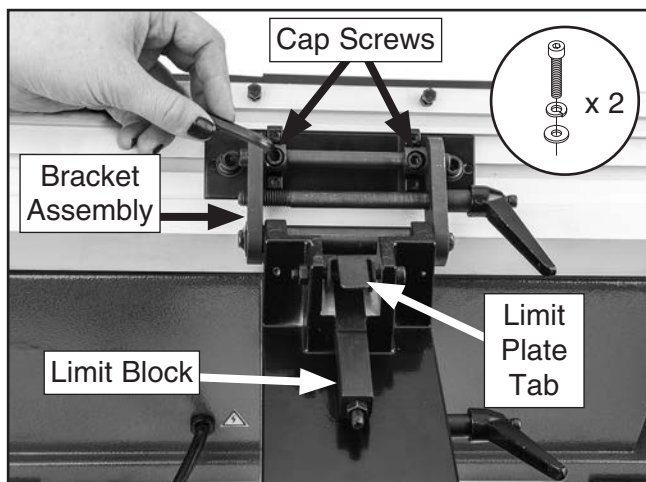

Figure 13. Attaching fence to fence bracket assembly.
4. Press down on limit plate tab on carriage assembly, and insert limit block with notched side facing upward (see **Figure 13**).
5. Use (2) M6-1 x 20 cap screws and (2) 6mm lock washers to attach fence to fence bracket assembly (see **Figure 13**).